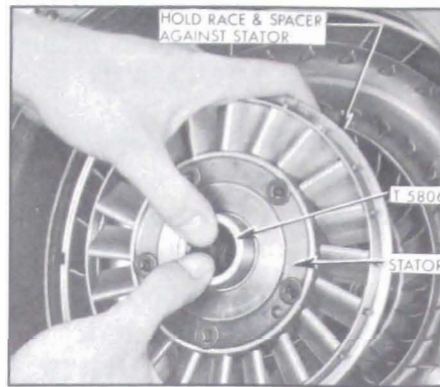

Figure 5-32—Removing Stator Assembly
5. Install tool J-5806 over input shaft with beveled end outward. Pull stator forward on reaction shaft, grasp spacer and needle bearing race behind stator to retain all free wheeling parts of the stator, then slide the assembly forward upon the tool and remove from input shaft. See Figure 5-32.